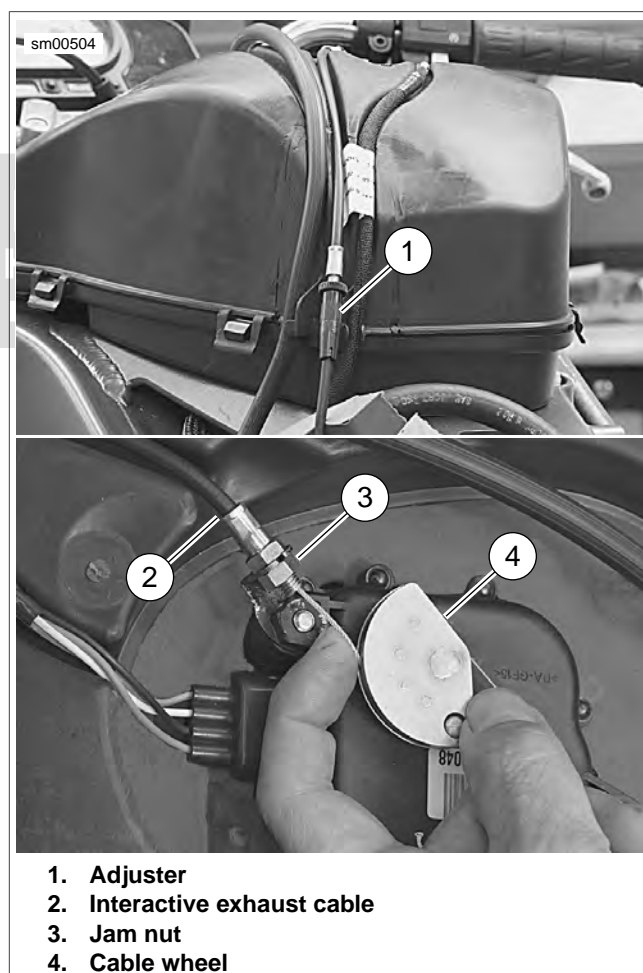

Figure 1-45. Interactive Exhaust Cable
3. See Figure 1-45. Loosen jam nut (3).
4. Remove cable (2) from bracket and cable wheel (4).
- b. See Figure 1-45. Adjust cable as needed using cable adjuster (1).